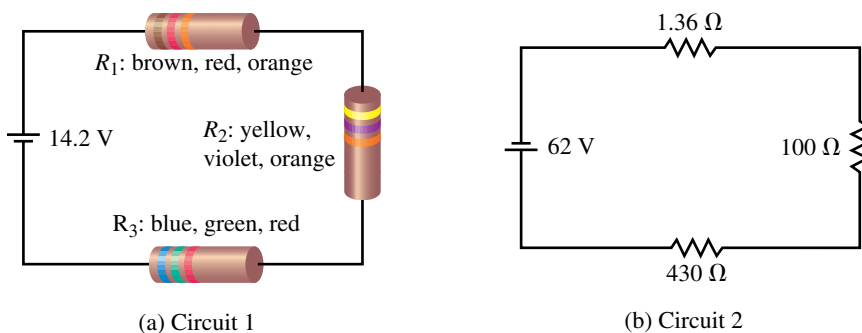

FIGURE 5-78
24. Repeat Problem 23 for the circuits of Figure 5-78.